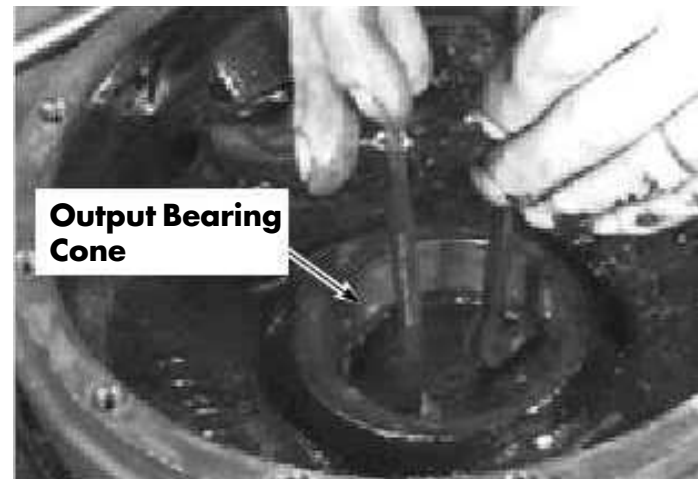

Figure 7-109. Output Shaft Bearing Cone Removal
13. Remove the output shaft bearing cone in the base of the housing using two pry bars. Insert the pry bars under the bottom edge of the cone on opposite sides. Apply even pressure on both tools to lift the cone out. See Figure 7-109.